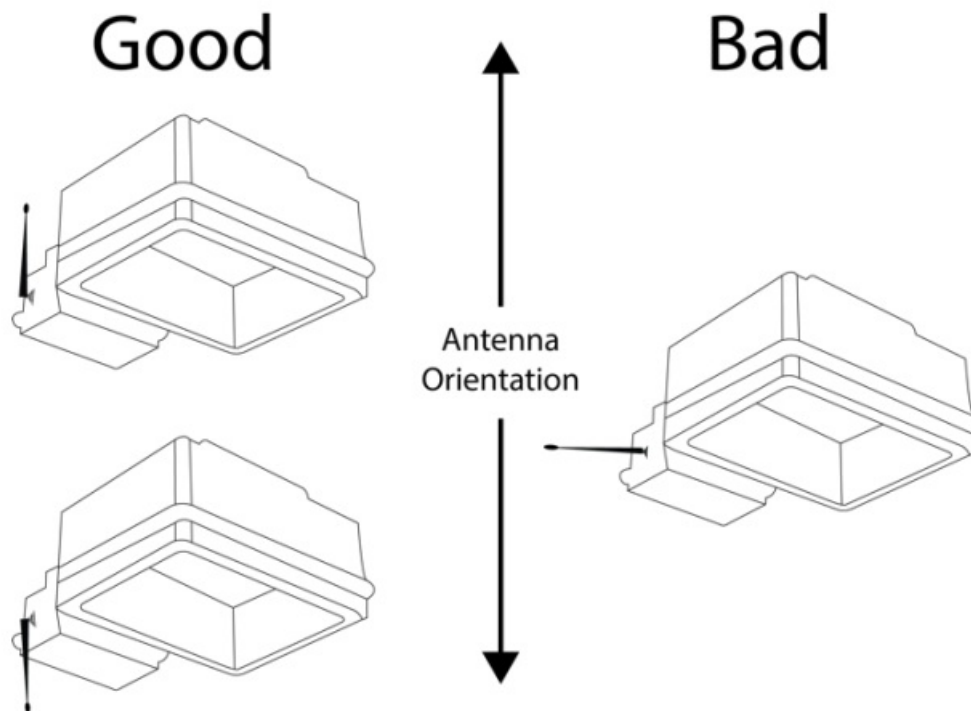

Figure 1 – Proper Antenna Installation
- When installing the DIM10-087-06-A into an enclosure, consideration of the external antenna position and interference is required to provide the most optimum wireless signal strength. Prior to permanently mounting it, make sure the antenna points directly upward or downward and is free of any metal objects within 2 in. of the antenna (Figure 1).